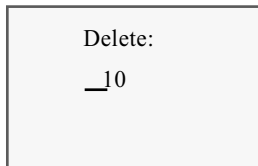

Fig. 4.17 Delete Function Block
1. Press “OK” at “>Delete FB” in the Editor Frame and the delete status is entered, as shown in Fig. 4.17.
2. After the number of the function block to be deleted (e.g. 10) is inputted at the cursor position as shown in Fig. 4.17, press OK and function block B10 is deleted. 1 will be automatically subtracted from the numbers of all the function blocks following B10.